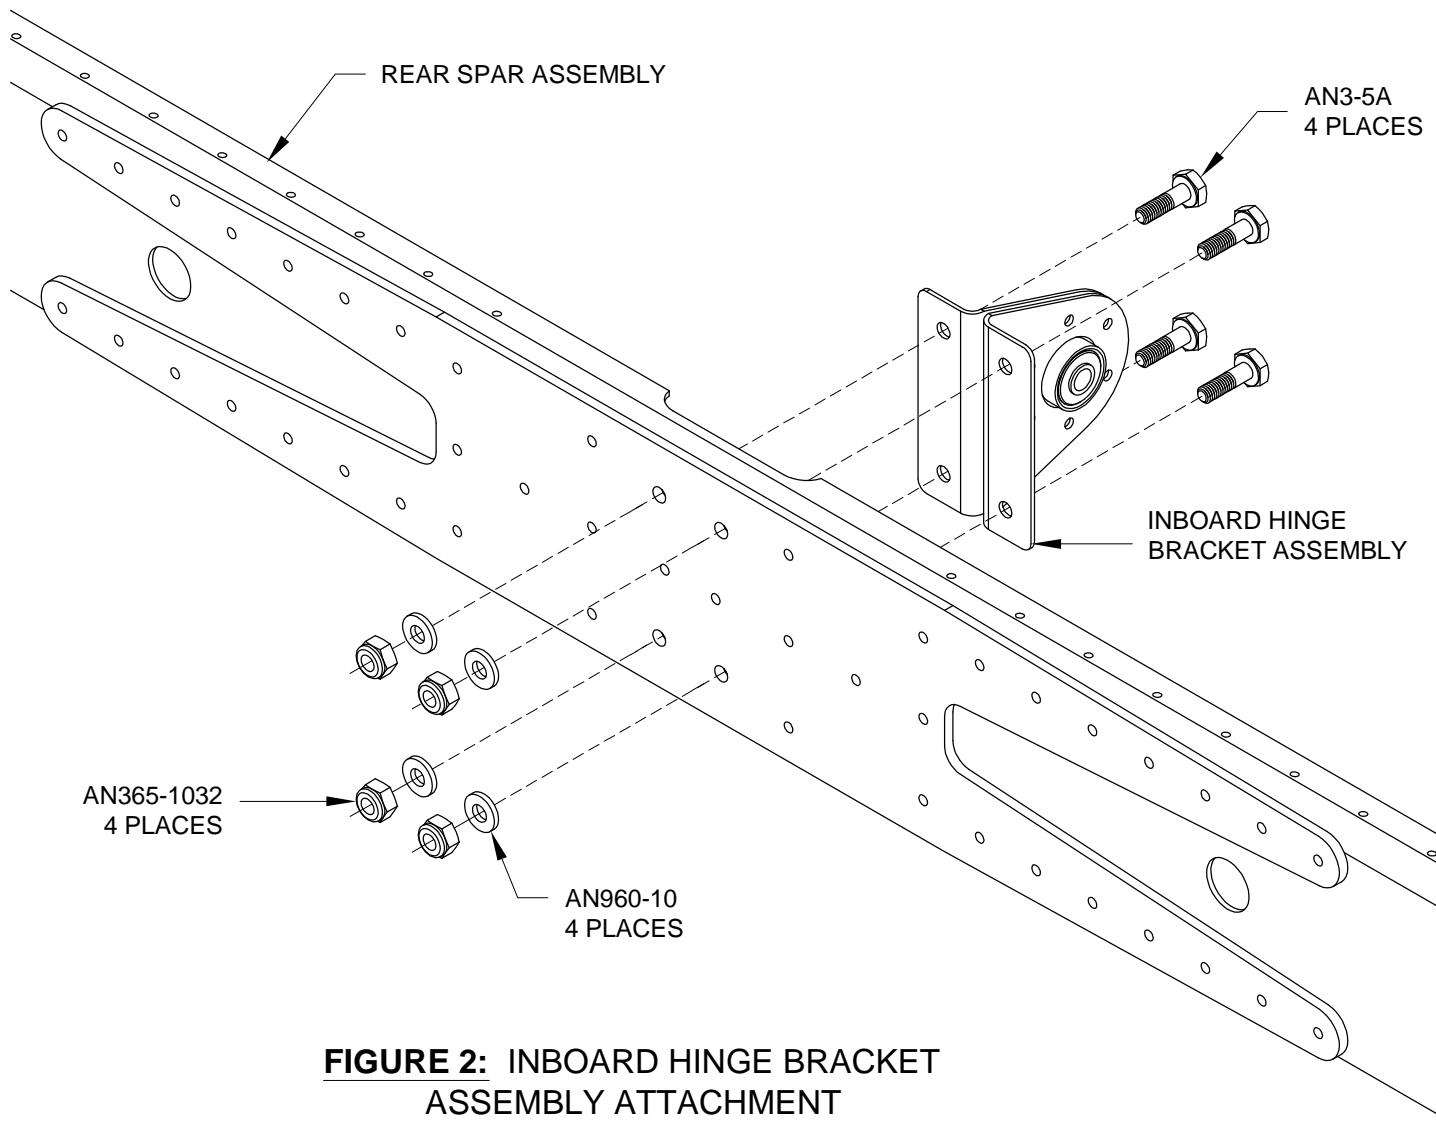

FIGURE 2: INBOARD HINGE BRACKET ASSEMBLY ATTACHMENT
Step 2: Bolt the inboard hinge bracket assembly to the rear spar assembly using the hardware shown in Figure 2. Use the correct torque on the nuts per the chart in Section 5V.